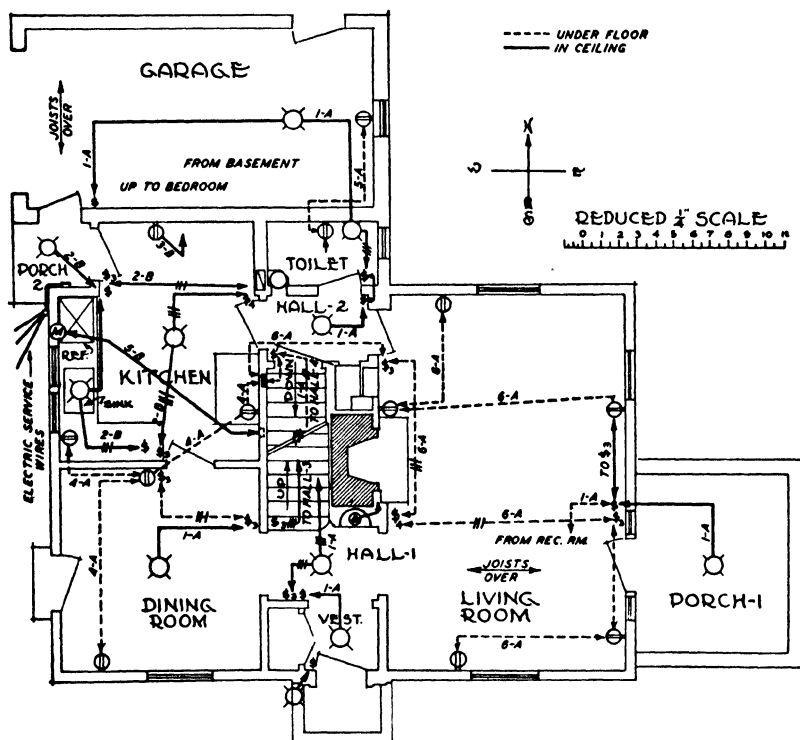

Fig. 3. Wiring Plan of First Floor of 1 1/2-Story Building
Then from ceiling light hall 4, a 2-wire cable goes to the fruit storage room ceiling outlet, Fig. 2. Here it branches, one run going up to the front entrance light switch in the vestibule, Fig. 3. From this switch the wires run through the wall to the bracket outlet on the outside of the building. Another branch from the fruit storage room outlet, Fig. 2, goes up to the hall 1 single-pole switch for the vestibule light and 3-way switch for hall 1 light.
A run of cable goes from hall 4 ceiling outlet to the switch in the recreation room, Fig. 2. From this switch, a 3-wire cable is run to the first outlet in the recreation room in order that current can be carried on up to the single-pole switch for controlling the light on porch 1, Fig. 3. This porch switch is located north of the window at the side of the door between the living room and the porch. From this switch, the wiring goes up the studding partition to the porch ceiling, and then across to the porch outlet.
There is another cable from hall 4 light outlet to the single-pole switch controlling the laundry light over the laundry tubs. Then a cable from this laundry light switch goes up through the ceiling to the 3-way switch at the side of the door between the dining room and hall 1 on the first floor, Fig. 3. There are two 3-way switches for controlling the light at the head of the
In the dining room, Fig. 3, there are three wires from one 3-way switch to the 3-way switch at the side of the door which opens into the kitchen, Fig. 3. This enables the dining room light to be turned on or off from either
**Fig. 3.** This switch controls hall 2 ceiling light, Fig. 6. A short loop of cable is made from this switch box through the partition to the switch controlling the toilet room bracket light. A 3-wire cable is run from this switch to the bracket light in order that current can be carried on to the garage ceiling light. From the garage ceiling light, two wires are run to the garage switch located near the door between porch 2 and the garage. This enables the garage lights to be controlled from near the door.
*Answer.* The only unusual feature is the living room convenience outlets or wall plugs which are controlled by two 3-way switches and a 4-way switch, Fig. 3. The switches are located near the doorways of this room so that a person entering the living room by any door can turn on the lamps connected to the wall plugs. The lighting in the living room will be by the use of floor lamps attached to the convenience outlet or wall plugs. A wiring diagram of this layout is shown in Fig. 7. Notice that there are 3 wires from the 3-way switch to the 4-way switch and on to the 3-way switch. Since
Item 3 (Table 2) is for the cable connecting hall 4 ceiling light with the fruit storage room light. The distance is approximately 4 feet, going through floor joists that are spaced approximately 16 inches apart. Three joists will have to be bored. There are two other leads of cable from hall 4 light outlet which are taken up after the end of the fruit storage room run is reached. At the fruit storage room outlet there are two branches. The first branch goes up to the switch in the front vestibule, Fig. 3, which controls the bracket
In Item 6 (Table 2) we return to the fruit storage room ceiling light, and follow the other branch up to the single-pole and 3-way switch in hall 1, Fig. 3. The single-pole switch controls the vestibule light, and the 3-way switch, the hall 1 light. The cables run 2 feet north, 1 foot west, and 5 feet up. Holes will have to be bored through two floor joists and a bottom plate. Item 7 is from the single-pole switch in hall 1, Fig. 6, up to the vestibule light. Cable is run up to the ceiling 5 feet, then 2 feet east along the floor joist, and 3 feet south. It is necessary to drill the top plate of the partition and two floor joists.
Item 12 (Table 2) is the cable from the recreation room ceiling outlet, 7 feet eastward, 3 feet north, 5 feet up to the switch on the east wall of the living room (Fig. 3), for controlling the porch 1 light. Two straps will be used to support the cable when running parallel to the floor joists. The two floor joists will have to be bored as well as one bottom plate.
Item 13 (Table 2) is for the cable from the single-pole switch, which is mounted in the same box as the 3-way switch for the living room wall plugs (Fig. 3) up to the porch 1 ceiling light. It is approximately 5 feet up, 5 feet eastward, and then 3 feet south. One strap will be used, one top plate, and three floor joists bored.
Item 15 (Table 2) is for the cable going up from the laundry room switch to the ceiling and then parallel to the floor joist to the outlet over the laundry tubs. The cable is fastened to the side of the floor joists with straps which are nailed to the joists. In Item 16 we return to the laundry switch, and have another run of cable up to the ceiling and across to a point directly below the 3-way switch at the side of the door in the dining room, Fig. 3. The wiring connections at this switch are shown in Fig. 6. The cable is run approximately 4 feet north, 4 feet up from the switch to the ceiling, and 4 feet from the basement ceiling to the switch in the dining room.
Item 17 (Table 2) includes the 3-way switch from the east door of the dining room to the 3-way switch in the kitchen door of the dining room, Fig. 3, and the 2-conductor cable from the east door of the dining room 3-way
switch to the ceiling light. The 3-conductor cable is run down from one switch under the floor across to the other switch, as indicated by the dotted line, Fig. 3. Thus approximately 21 feet of 3-conductor cable is used for the switches, and 16 feet of 2-conductor cable from the switch up to the ceiling and across to the ceiling outlet. Approximately three floor plates will have to be drilled and four floor joists. Two straps will be used to fasten the cable where it is parallel to floor joists.
Item 22 (Table 2) is for the cable from the heating plant switch, Fig. 2, up to the switch for hall 2 light (Fig. 3), located at the side of the door which opens into the toilet room. This cable runs 4 feet up the concrete wall to the ceiling, 4 feet north, up through the floor joist to the partition, and to the switch about 4 feet above the floor. One Rawl plug will be used and four holes will be bored in the floor joist and top plate.
Item 23 (Table 2) is for the cable from hall 2 switch to the ceiling light. The diagram of the wiring of this switch and light is shown in Fig. 6. Item 24 is for the cable from hall 2 switch in the wall as shown in Fig. 3 to the switch controlling the toilet light. These switches are near the door frames where double studs are often used, so it may be necessary to bore four holes.